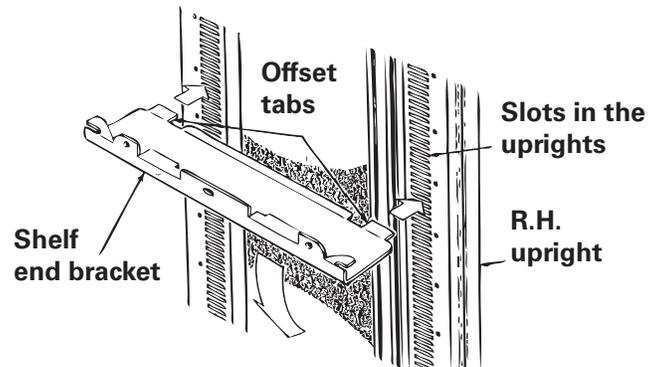

Figure 2. Shelf end bracket locating
2. Start at either side of the cabinet with either shelf end bracket (they are the same). Hold it horizontally and insert its two offset tabs into the slots in the uprights (see figure 2). Then let it pivot downward and hang vertically. Install the other shelf end bracket the same way.